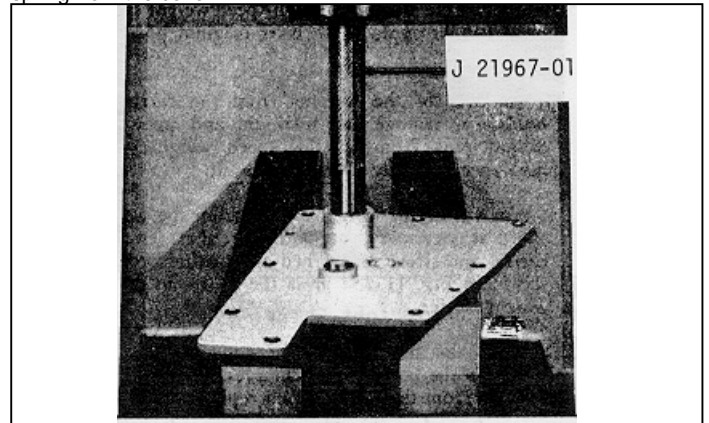

Fig. 4
- (g) If needle bearing removal is necessary, place the inner face of the cover over the opening on the bed of an arbor press. Place remover J 21967-01 on the top of the bearing and under the ram of the press, then press both bearings out of the cover as shown in Fig. 4.